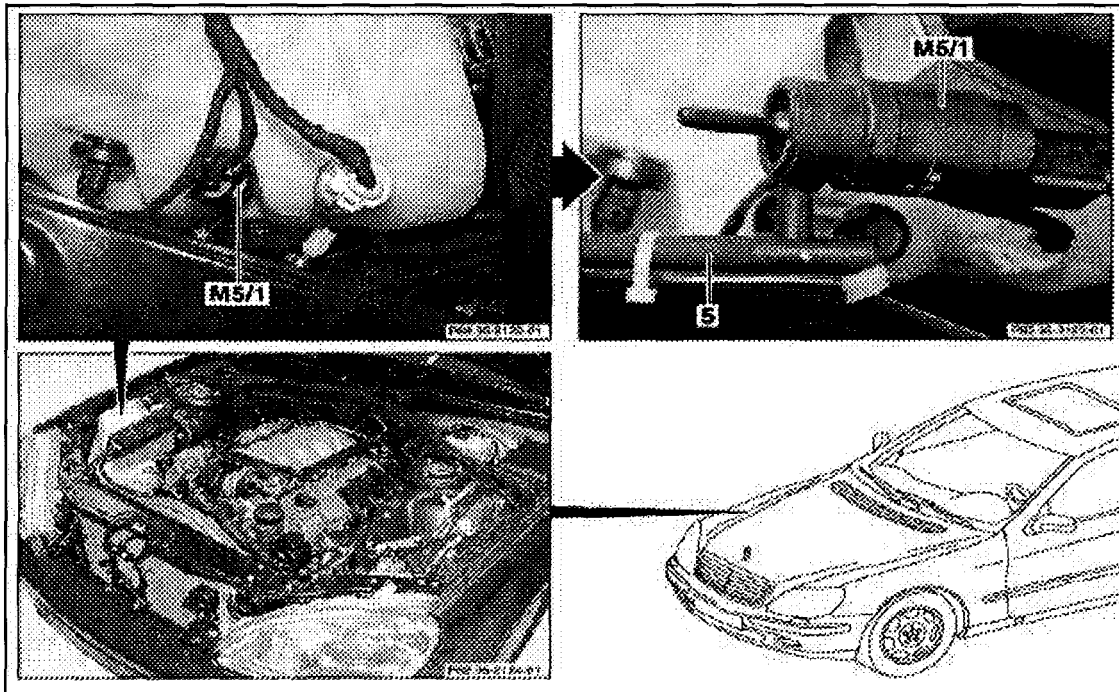

Figure 6
11. Open tie strap (11, Figure 6), **NOTE:** Applies to Model 220 only.
12. Pull windshield washer fluid pump (M5/1, Figure 6) along with attached washer fluid hose (5, Figure 6), from the washer fluid reservoir. Upon removing washer pump, plug hole in washer fluid reservoir with a suitable plug, e.g. screwdriver tip, to prevent washer fluid leakage.
14. Pull washer fluid hose (5, Figure 6) from washer fluid pump (M5/1, Figure 6).
22. Close tie strap (11, Figure 6). **NOTE:** Applies to Model 220 only.